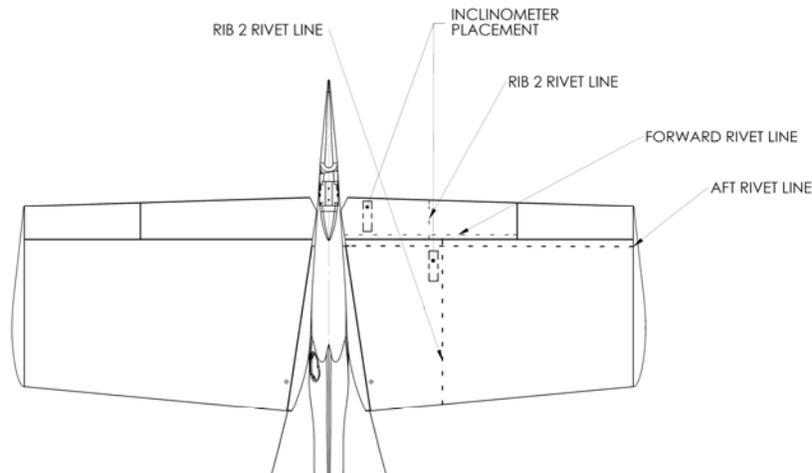
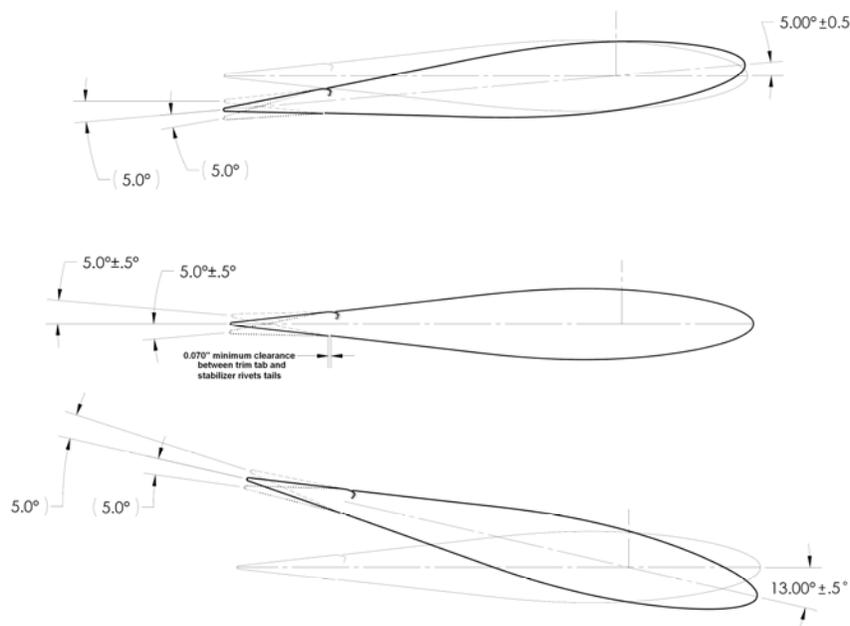

Figure 27-89 Location Inclinator for horizontal stabilizer
Figure 27-90 Stabilizer Deflections
6. Place on top of the Port horizontal stabilizers SmartTool™ digital inclinometer as shown in Figure 27-89. Record the port horizontal stabilizer upper skin neutral angle.
7. Place on top of the Starboard horizontal stabilizers SmartTool™ digital inclinometers as shown in Figure 27-89. Record the starboard horizontal stabilizer upper skin neutral angle.
11. Place on top of the port trim tab SmartTool digital inclinometer as shown in Figure 27-89. Actuate the trim tab 'NOSE UP' or 'NOSE DOWN' until the trailing edge of the port trim tab is within 0.2° of the angles recorded for the port horizontal stabilizer. Transfer SmartTool digital inclinometer to starboard or utilize a second SmartTool digital inclinometer on the starboard location. The trim tabs are to be within 0.5° of each other.
14. Use the SmartTool™ digital inclinometer located on the top of the port trim tab skin as shown in Figure 27-89. Record the trailing edge up deflection angle. The angle must fall between 4.5° and 5.5° (5.0° ±0.5°). See Figure 27-90.
16. Use the SmartTool™ digital inclinometer located on the top of the port trim tab skin as shown in Figure 27-89. Record the trailing edge down deflection angle. The angle must fall between 4.5° and 5.5° (5.0° ±0.5°). See Figure 27-90.
19. Record the port horizontal stabilizer pitch up (trailing edge up) attitude from a SmartTool™ digital inclinometer located on the top of the tailplane skin as shown in Figure 27-89. This measurement must fall between 12.5° and 13.5° (13.0°±0.5°) of the horizontal stabilizer neutral attitude angle recorded in Step 6 See Figure 27-90.
21. Record the port horizontal stabilizer pitch down (trailing edge down) attitude from a SmartTool™ digital inclinometer located on the top of the tail plane skin as shown in Figure 27-89. This measurement must fall between 4.5° and 5.5° (5.0° ±0.5°). See Figure 27-90.